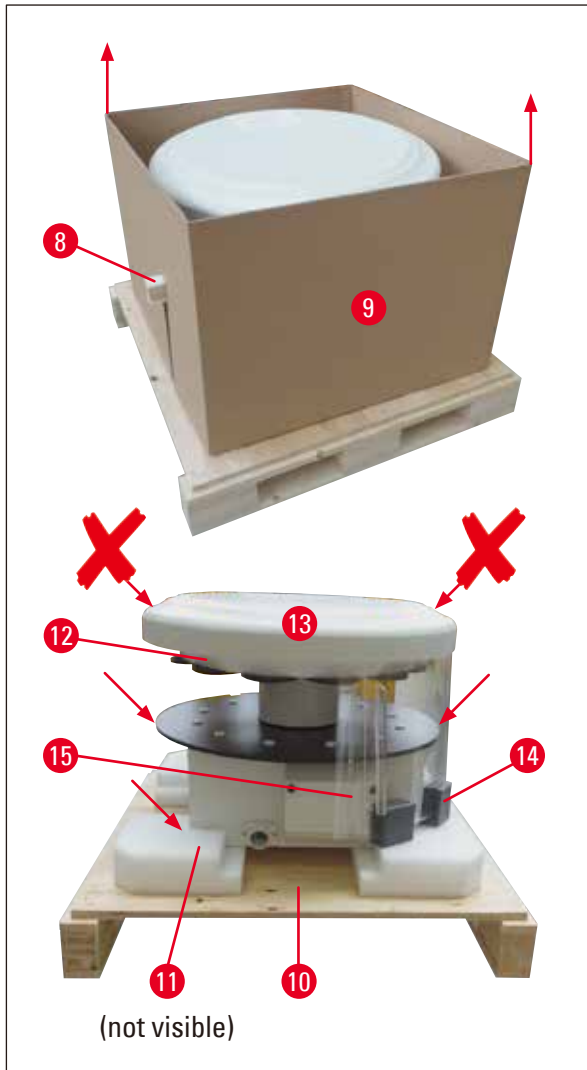

Fig. 11
- To lift up the instrument (using 2 persons), take it by the reagent container platform, or by the lower end of the housing (see (→ Fig. 11), ↓ ↓ below) and lift it from the base plate (→ Fig. 11-10).